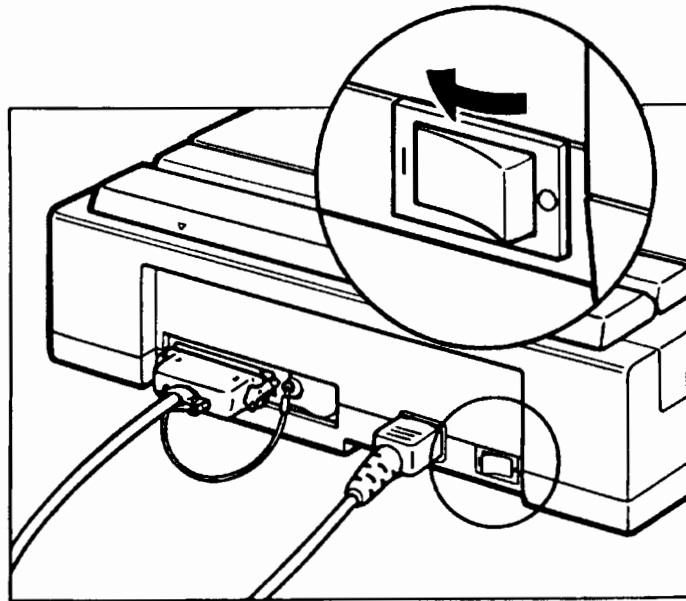

Figure 2-10. Turning On the Scanner.
3. Turn on the scanner power switch. See figure 2-10. The power indicator on the front side of the scanner should be lit.